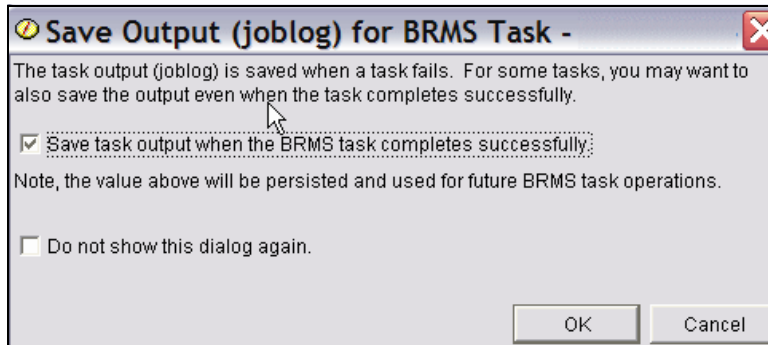

Figure 5-95 Restore Domino data with BRMS, Restore - save joblog
15. If you want the joblog to be saved, select **Save task output...** and click **OK**, as shown in Figure 5-95 on page 275.